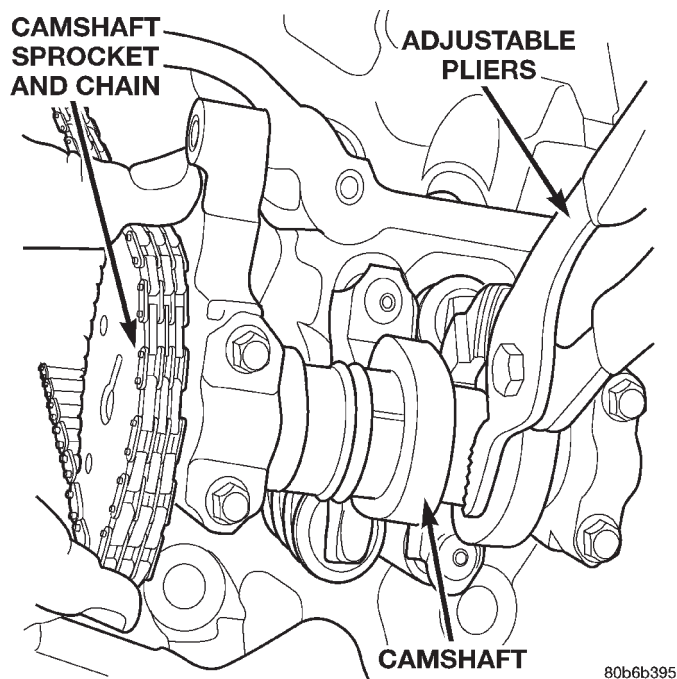

Fig. 66 Camshaft Rotation—Left Side
- (13) Remove left and right camshaft sprocket bolts.
- (14) While holding the left camshaft steel tube with adjustable pliers, (Fig. 66) remove the left camshaft sprocket. Slowly rotate the camshaft approximately 15 degrees clockwise to a neutral position.